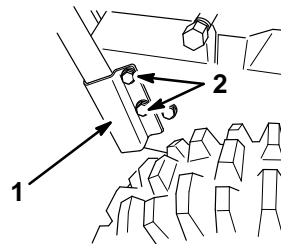

Figure 4
3. Remove and discard the two screws securing the front of the right handle bracket to the engine frame (Fig. 4).